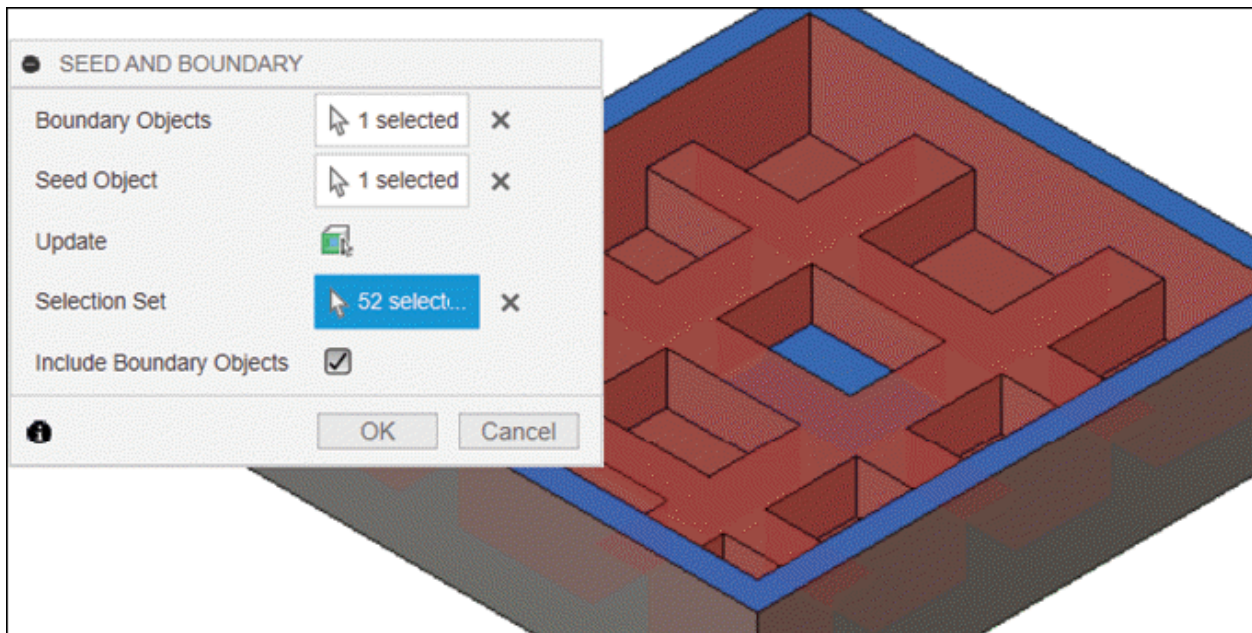

Figure-24. After updating selection
- Click on the **Update** button to update the selection based on seed object. All the nearby faces within boundary will get selected; refer to Figure-24.